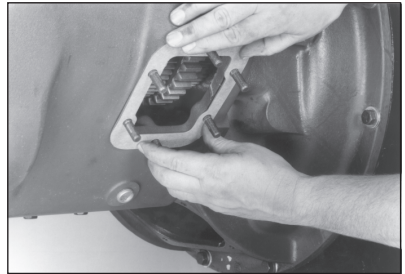

Fig. 7
7. Place the correct number of gaskets over studs (Fig. 7). Do not use Permatex between gaskets because you may want to add or subtract gaskets to obtain proper backlash.